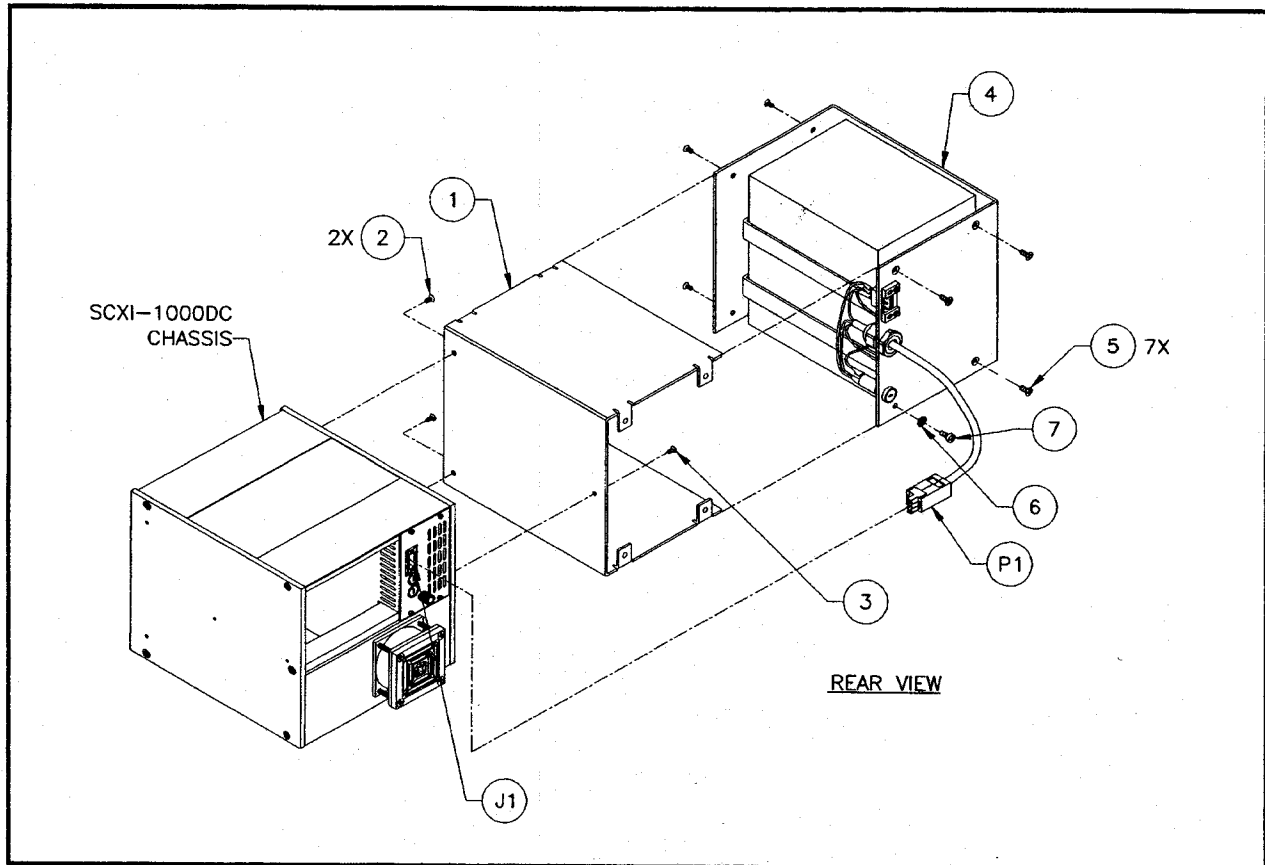

Figure 2. Connecting the SCXI-1382 to the SCXI-1000DC Chassis
To connect the SCXI-1382 battery pack to the SCXI-1000DC, refer to Figure 2 and perform the following steps:
2. Remove the eight screws that hold the battery pack together (items 5 and 7 in Figure 2).
3. Using the screws supplied in this kit (items 2 and 3 in Figure 2), attach the battery pack base (item 1) to your SCXI-1000DC chassis.
4. Slide the battery pack cover assembly (item 4 in Figure 2) onto the battery pack base and reinsert the screws from step 2.
To connect the SCXI-1383 power supply/float charger to the SCXI-1000DC and the SCXI-1382 battery pack in float-charging mode, refer to Figures 2 and 3 and perform the following steps: